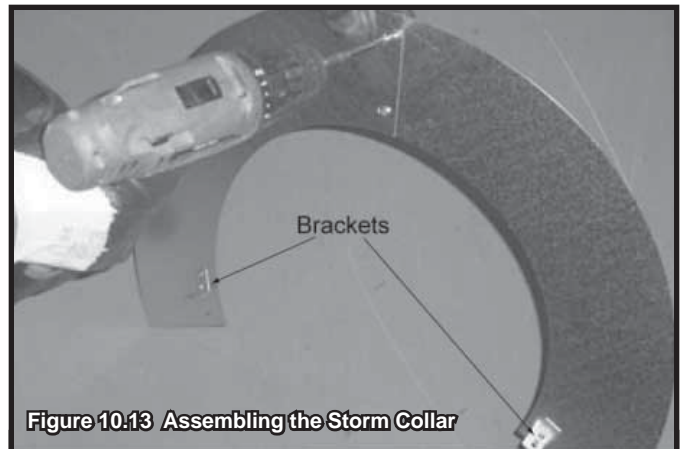

Figure 10.13 Assembling the Storm Collar
- Connect both halves of the storm collar with two screws. See Figure 10.13.